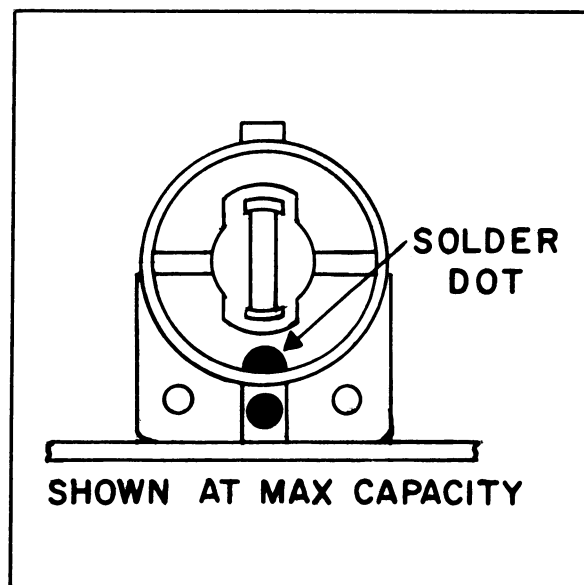

Figure 5 - Presetting Trimmers
PRESETTING TRIMMERS.Figure 5
4. Preset trimmers C2372, C2374, C2379, and C2382 (Figure 5) to approximately the correct setting (maximum capacity is low end of band). Trimmers are at maximum capacity when solder dot on ceramic rotor is closest to chassis.